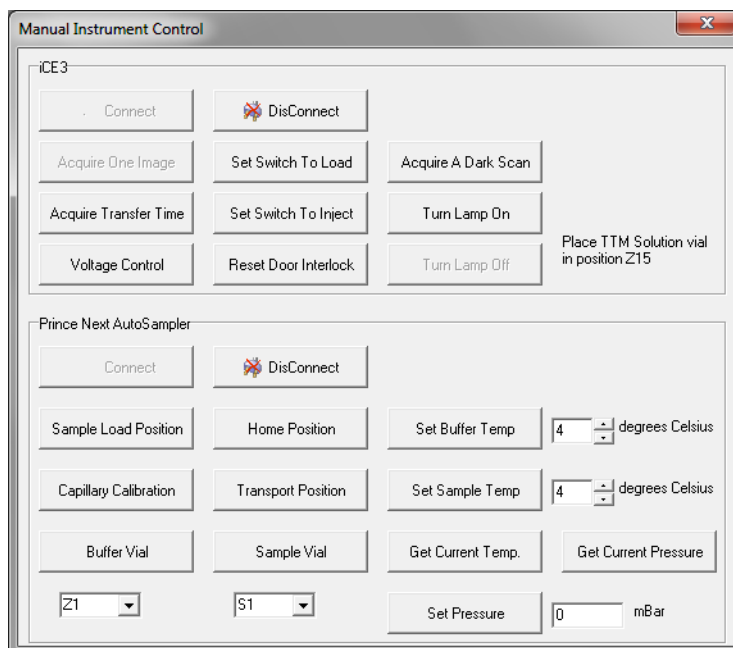

Figure 10-14: PrinCE Next autosampler manual control screen.
3. The Manual Instrument Control screen will display (Figure 10-14):